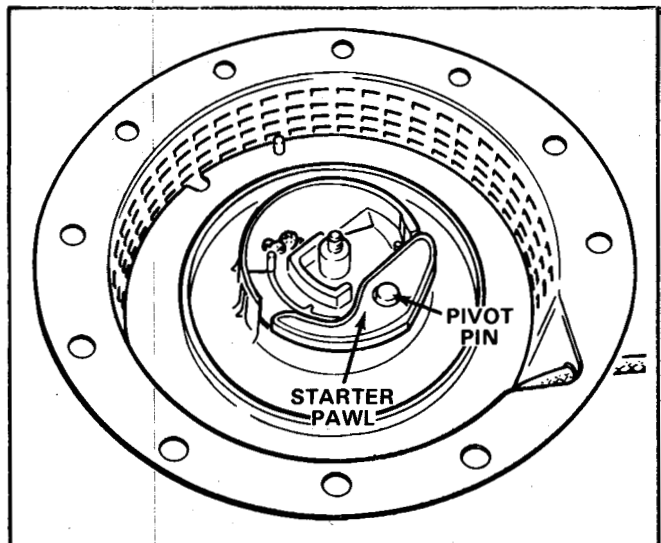

Figure 48
6. Install the starter pawl pivot pin. Then install the starter **pawl**. See Figure 48.